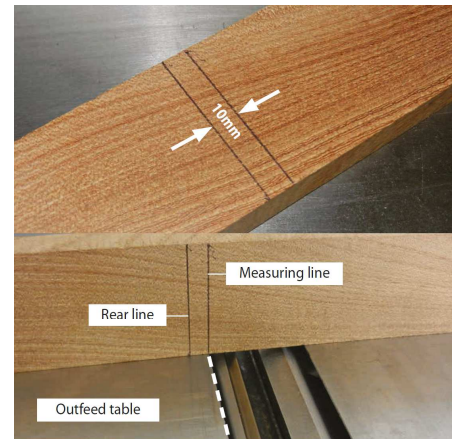

Fig 23
- Find a scrap piece of timber and draw two measuring lines approximately 3-4mm apart, see Fig 23.
- Place the timber to one side of the cutter block across the tables and line up right measuring line to the edge of the outfeed surface table, see Fig 23.
- The rear line should now line up with the outfeed table's edge, see Fig 23.